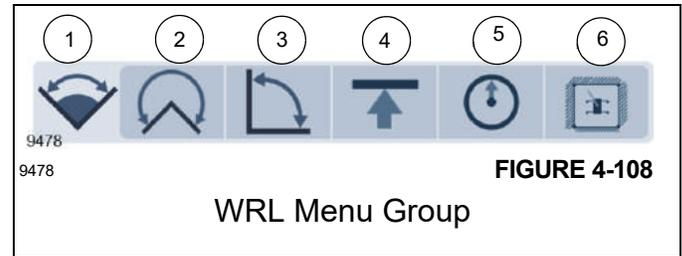

FIGURE 4-108
The WRL Menu Group (1, Figure 4-108) and sub-menu (2 thru 6) allows the operator to set limits on the location of the boom.
The following limitations are available under the WRL Menu Icon (1, Figure 4-108) as noted below. The number next to the limitation indicates the Menu Limitation Icon reflective of that group as shown in Figure 4-108.
When a limitation is active, and the boom has reached the requested limit position, the ODM shows a red-colored alert indicator for the limitation, again with a symbol for the particular type of limitation (refer to Figure 4-108 for the WRL Menu Icons). In this condition, audible alarms, as well as stopping of crane functions (if Lock-Out Function is used) will also be apparent. For example, for this condition, the following red Icon (shown below) would appear for the swing limitation:
The WRL Group is made up of five (5) WRL Function Icons. To enable and define a limitation, access the related WRL Function Icon in the WRL Group (Figure 4-108).
To access the WRL Function Icon Screen, the Menu Function is used with the display. Once the Main Menu screen is shown, the WRL limitations are shown as a group, and one of the limitations can then be selected to work with that limitation screen. To move to the Icon you wish to select, use the Arrow Keys on the Navigational Control Pad or the Jog Dial to move to the corresponding Function Icon you wish to set the limitation on as shown in (Figure 4-108).